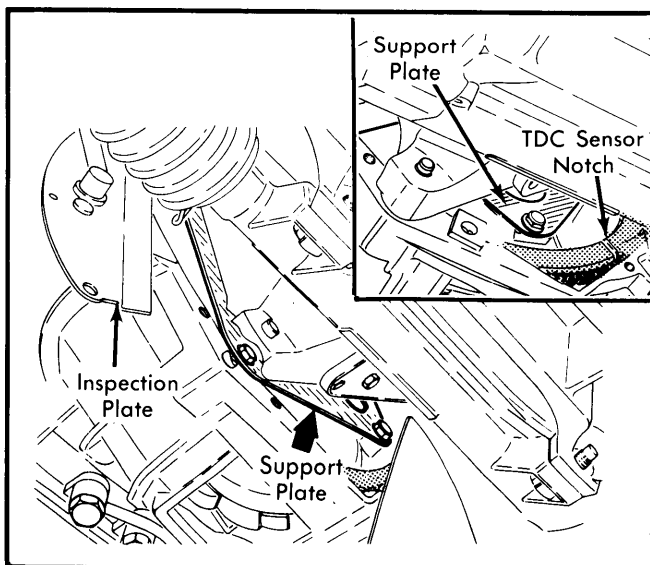

Fig. 1 Positioning Support Plate for Torque Converter During Engine Removal
7) Remove inspection plates and clutch housing. On vehicles with automatic transmission, remove inspection plate without altering TDC sensor adjustment. To do so, position torque converter support plate as shown in Fig. 1. Mark TDC sensor notch in reference to support plate. Support torque converter with special clamp (8.0315-A).